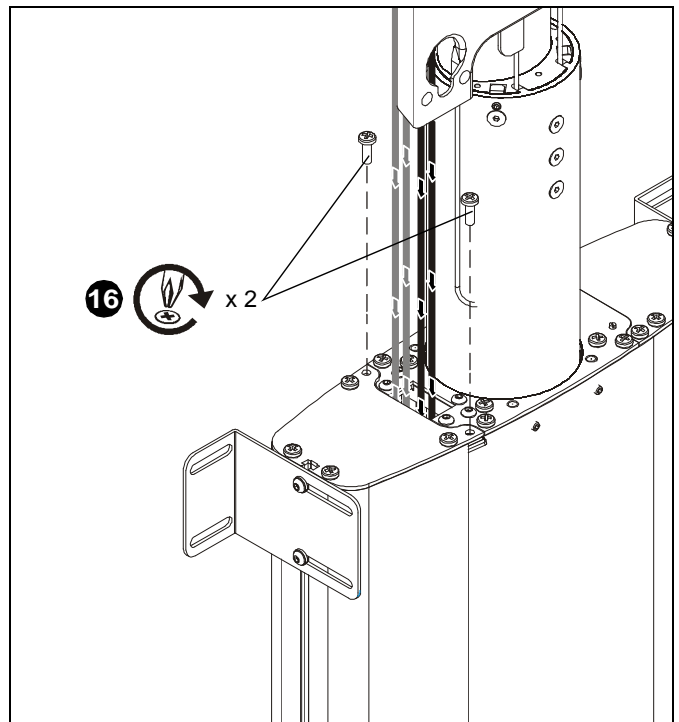

Figure 22
16. Secure cable guide side cover to CM2 mount using two screws (removed in Step 1). (See Figure 22)